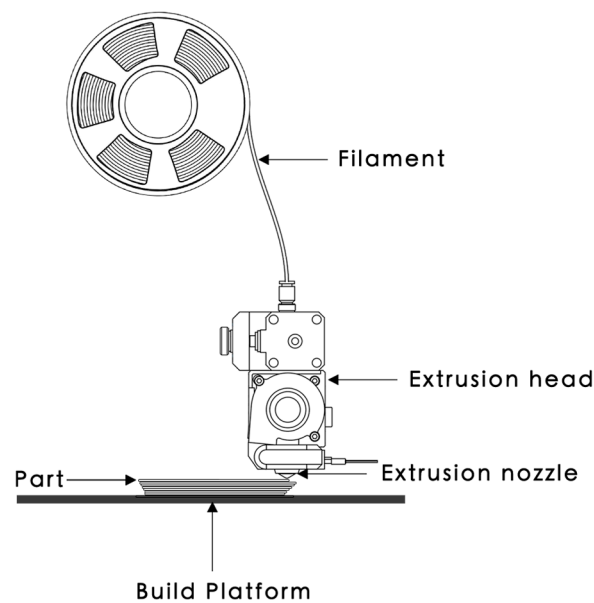

Figure 1. The material extrusion (ME) process.
Material extrusion (ME) is the second most popular form of additive manufacturing (AM) process with 844,800 and 499,500 searches on Google as well as Google Scholar, respectively, after Powder Bed Fusion that has been searched 578,000 and 26,820,000 times, respectively. The term 'ME' was commonly searched together with 'Fused Deposition Modelling' and 'Fused Filament Fabrication'. These three terms refer to the same AM process of additively building up material by selectively dispensing through a nozzle or orifice [1]. The technology involves the material from a spool of filament that is loaded into the printer, melted above its glass transition temperature (T_g) for amorphous polymers and above its melt temperature (T_m) for semi crystalline polymers to be selectively dispensed through the heated extrusion nozzle and deposited onto the build platform at a predetermined location (Figure 1) [2].